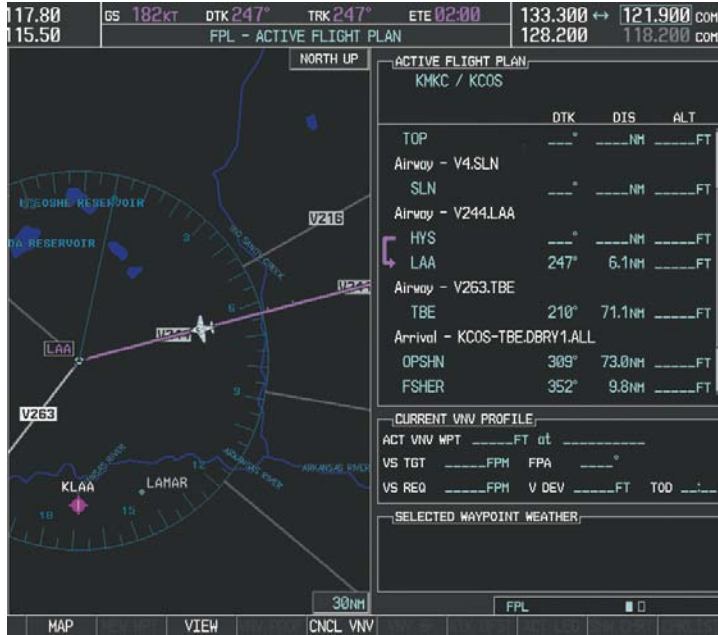

Figure 5-119 HYS to LAA Leg Active
10) At Lamar VOR (LAA) V263 is intercepted. See Figure 5-119.